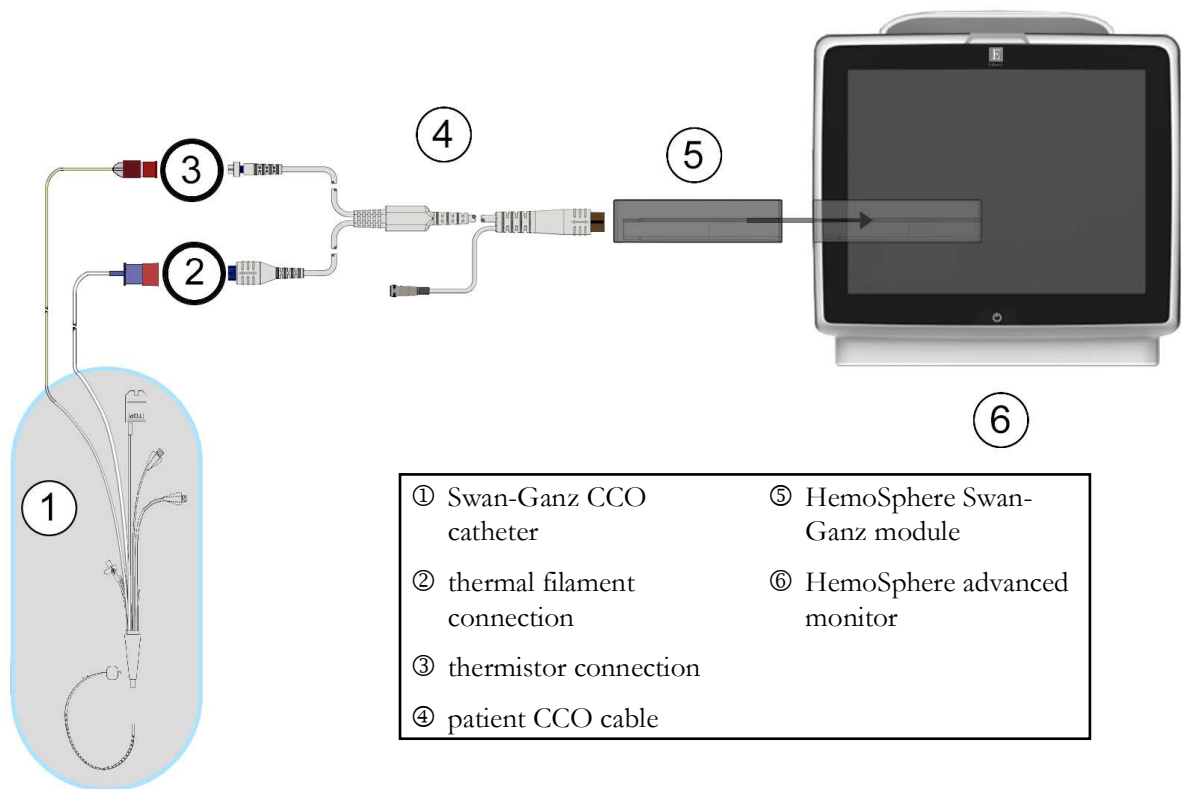

Figure 9-4 CO connection overview
- 2 Attach the catheter end of the patient cable to the thermistor and thermal filament connectors on the Swan-Ganz CCO catheter. These connections are emphasized as numbers ② and ③ in figure 9-4 on page 166.